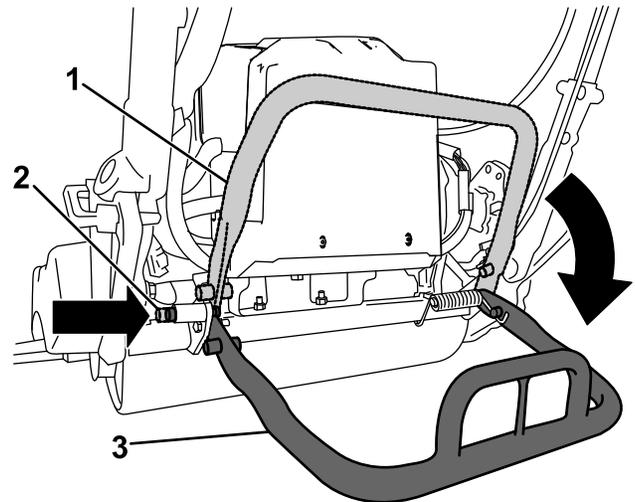

Figure 23
- To prevent the machine from tipping backward when removing the reel, lower the kickstand and push in the locking pin to lock it in the SERVICE position (Figure 23).